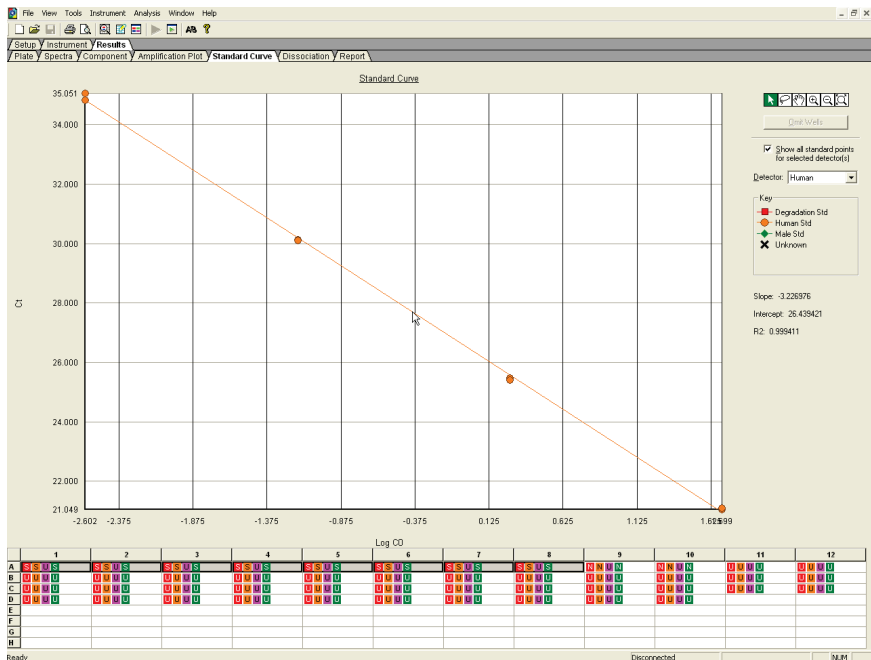

Figure 40. Standard curve.
- To view the standard curve, select the **Standard Curve** tab (found in the **Results** tab). View the C_T values for the quantification standard reactions and the calculated regression line, slope, y-intercept, and R^2 values for QPP_FAM, QPP_ATTO550 and the QPP_ATTO647N channels (Figure 40).